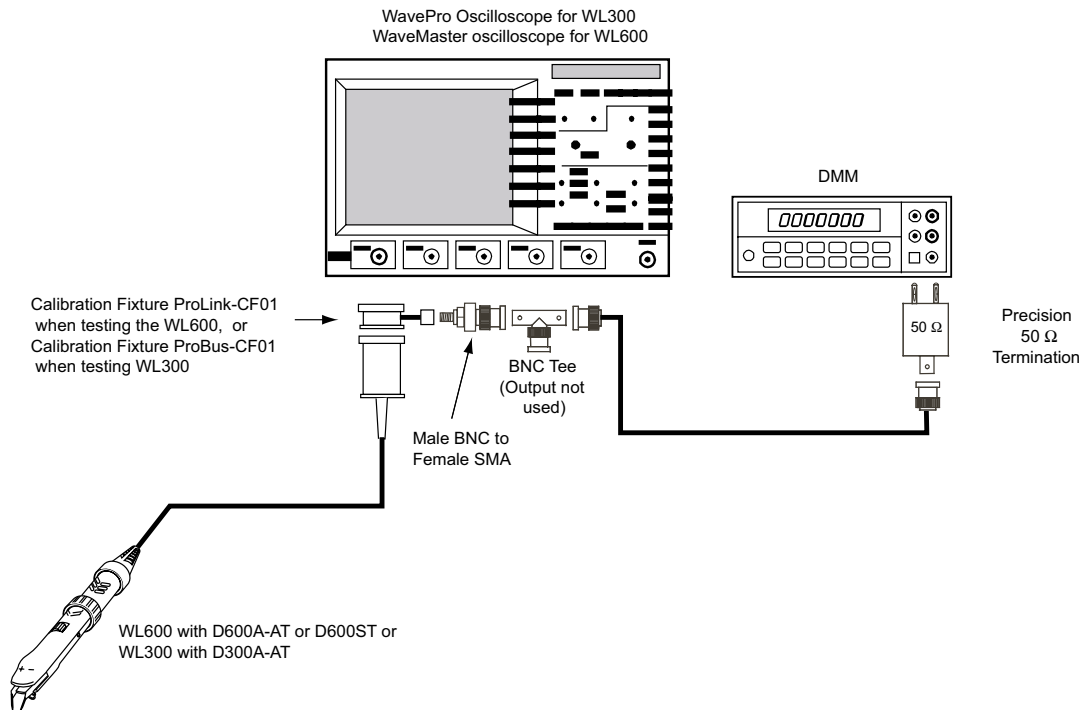

Figure 8-1. Output Zero Voltage
1. Connect the WL600 to the input of ProLink-CF01 Calibration Fixture. When testing the WL300 connect the probe to the ProBus-CF01 Calibration Fixture. Figure 8-1.
- a. Connect the appropriate calibration fixture to the output of the probe to be tested. Figure 8-1.
- c. For the WL600 connect a BNC to SMA adapter to the SMA output connector of the ProLink-CF01 Calibration Fixture and the BNC end to a BNC Tee. Figure 8-1.